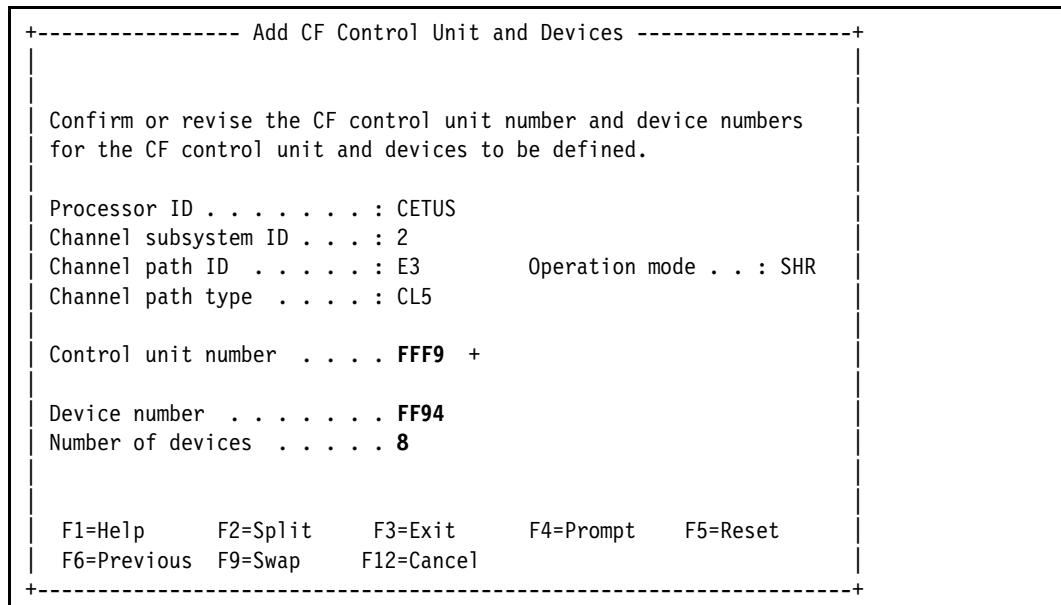

Figure 14-21 Processors: Add CF Control Unit and Devices, CL5
9. HCD checks available Control Unit numbers and Device addresses starting at FFFF and working backwards to provide suggestions. These suggestions can be overridden or accepted. We accept the suggestions for the second CL5 CHPID (Figure 14-21) and press **Enter**.